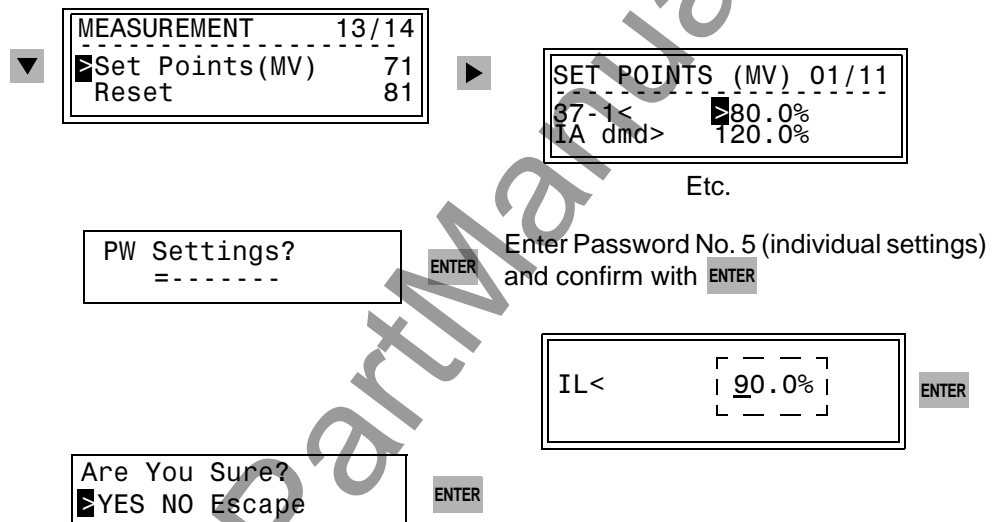

Figure 7-26 Setting Limit Values at the Front Panel — Example
There, select the menu item **Set Points (MV)** with the **▼** key, and switch to the list of limit values using the **►** key (see Figure 7-26).
Upon leaving this level using the **◀** or **MENU** keys, the safety inquiry "Are you sure?" appears, with the default answer "Yes" (Figure 7-26). Confirm with the **ENTER** key if the value should become effective. If a change to the value is not desired, press the **►** key so that the answer "No" is marked, and confirm this with the **ENTER** key. To correct the value, mark "Escape", confirm this with the **ENTER** key, and enter the value again